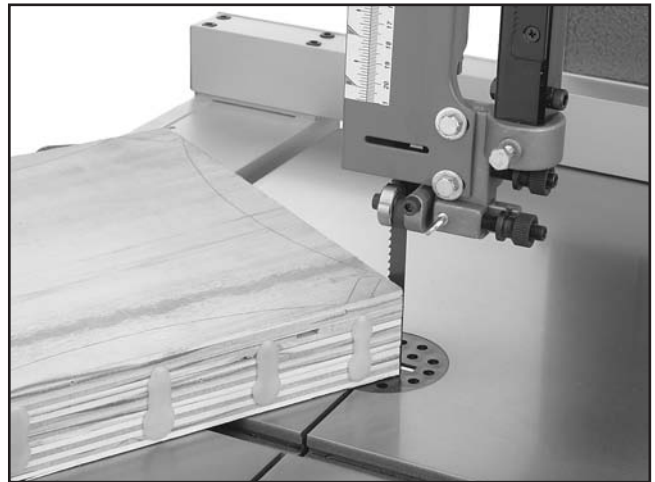

Figure 41. Cutting multiple pieces at once.
5. Cut the stack of pieces as though you were cutting a single piece. Follow your layout line with the blade kerf on the waste side of your line as shown in **Figure 41**.